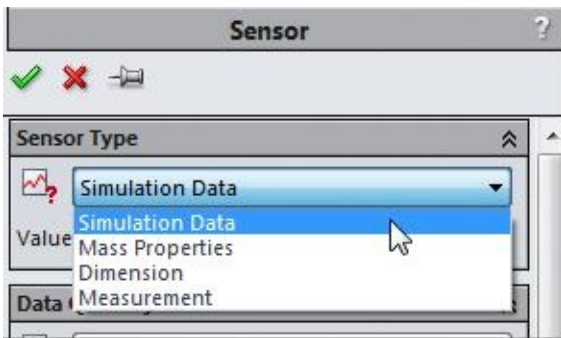

Figure-23. Simulation Data option
- Select the **Simulation Data** option from the list; refer to Figure-23.